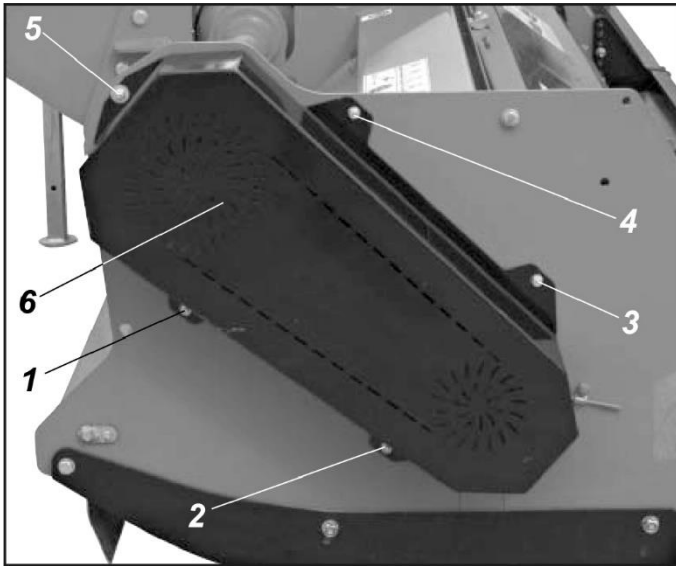

Figure 7.15
- 7.6.1.1. Unscrew and remove the five nuts, see Figure 7.15 (1, 2, 3, 4 and 5);
- 7.6.1.2. Remove the guard; see Figure 7.15 (6);
7.6.1.6. Refit the guard, see Figure 7.15 (6);
7.6.1.7. Refit and tighten the five nuts, see Figure 7.15 (1, 2, 3, 4 and 5);